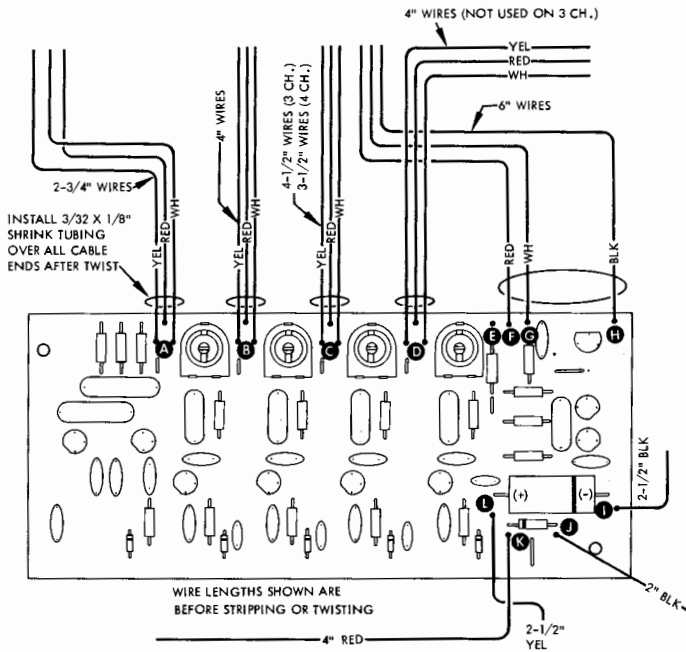
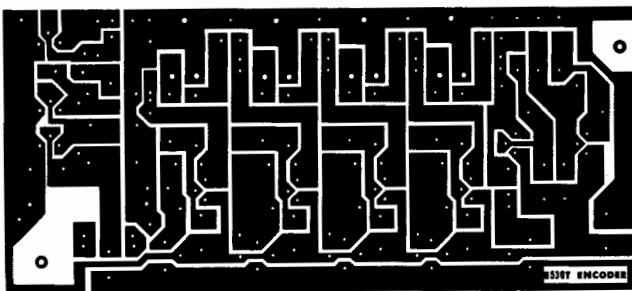

Figure 8. Logic Board Wiring (3 and 4-Channel)
Figure 10. Logic Board Lands
- 80. Using wire strippers, remove 1/8" insulation from both ends of each wire above, except remove 1/2" from one end of 2-1/2" black wire (I).
- 82. Insert one end of yellow, red and white wires from Group "A" into proper holes on logic board at position (A), and solder in place. (See figure 8.)
- 83. Solder Group "B" yellow, red and white wires into position (B) holes.
- 84. Solder proper length Group "C" wires into position (C) holes. (See figures 8 and 9 for positive wire length identification.)
- 85. On 4-channel, 2-stick model only, solder Group "D" wires into holes at position (D). (No wires connect here on 3-channel; wires from single stick rudder pot will be connected here later.)
- 86. Solder 6" red, white and black wires to board at positions (F), (G) and (H).
- 89. Solder the 1/8" stripped end of each of the four remaining short wires to logic board at positions (I), (J), (K) and (L).
- 90. Clip protruding leads from bottom of board then use lacquer thinner to remove solder rosin. Inspect carefully, under magnification, for possible shorts between board lands. Compare with figure 10. Put logic board aside until final installation.